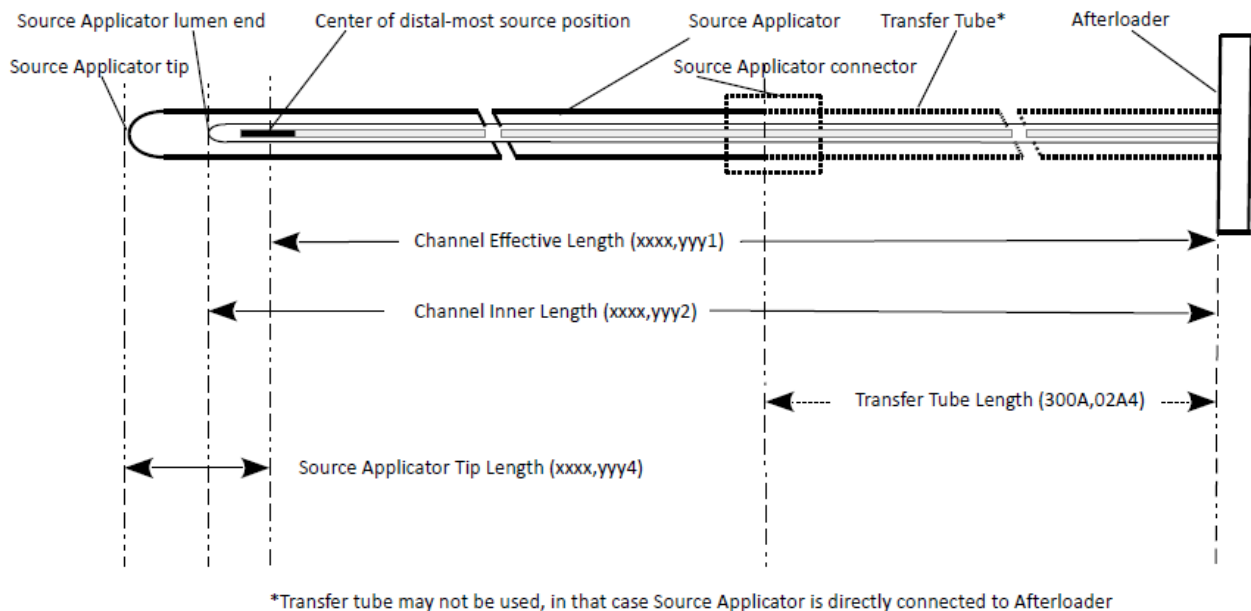

Figure C.8.8.15-1 — RT Brachy Channel Geometric Parameters
**Notes: Channel Length (300A,0284) have been interpreted in different ways. Channel Effective Length (xxxx,yyy1) should be used instead, as the distance from the afterloader to the center of the distal-most possible dwell position following the definition in the Figure C.8.8.15-1.**